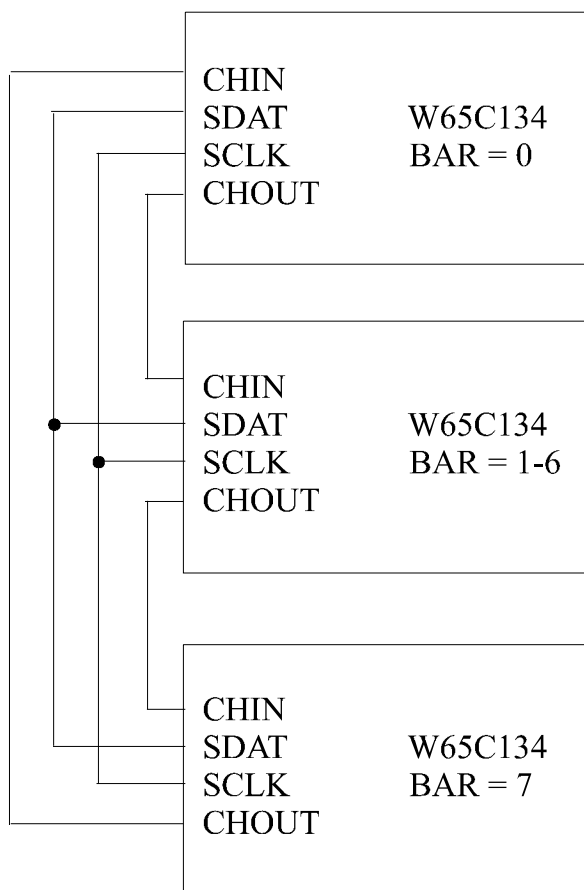

Figure 1-14 W65C134S Serial Interface Bus (SIB) Wiring Diagram
The SR0, SR1, SR2, and SR3 are the four (4) 8-bit shift registers (32-bit shift register) that are used to transfer messages from one SIB to another SIB on a token passing ring network. Two to eight SIB's may be connected together (see Figure 1-14 Serial Interface Bus (SIB) Wiring Diagram for more information).